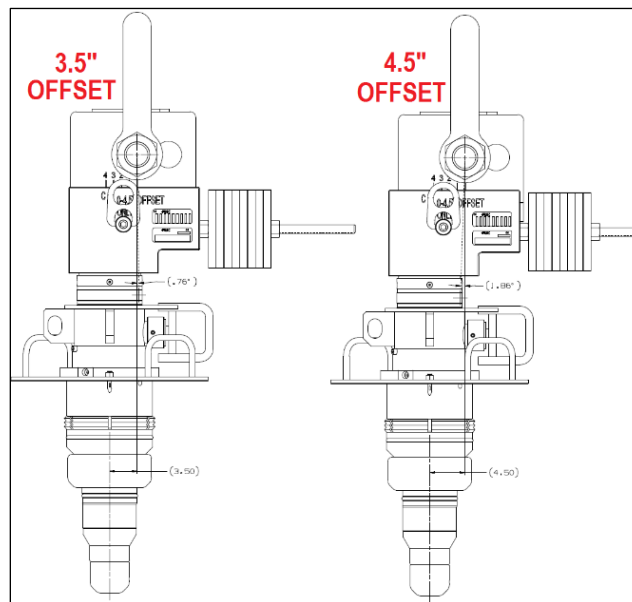

Figure 13: 3.5" to 4.5" offset
- For 3.5" to 4.5" offsets, install 8 counterweights and secure with Qty. 2, 1.25" nuts. Park remaining 8 counterweights on shipping stand. See Figure 13.